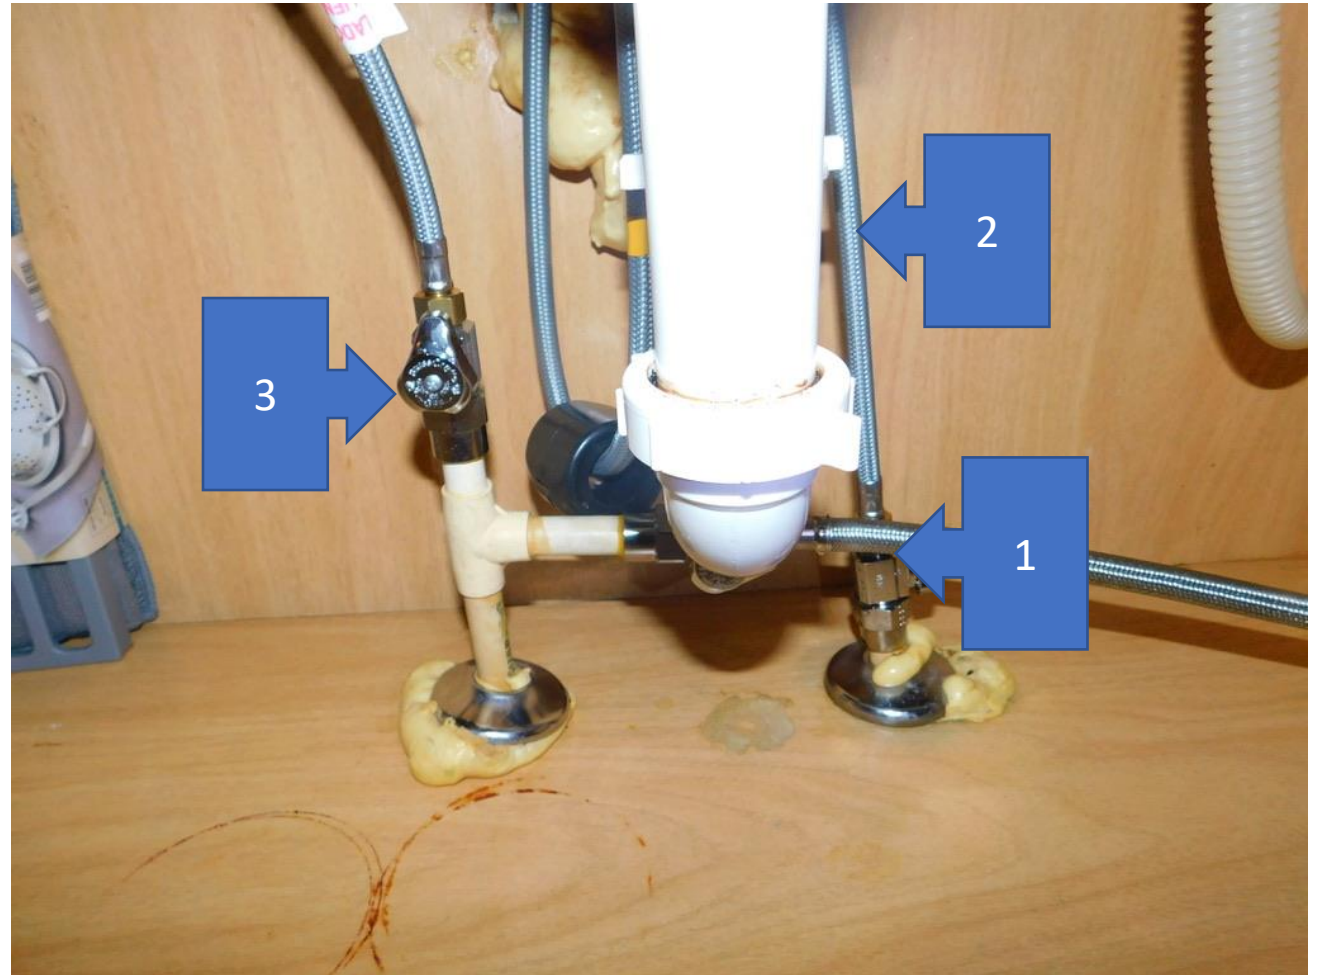

Figure 1
**I. Preparation for Installation: (See Figure 1 of instruction pictures)**